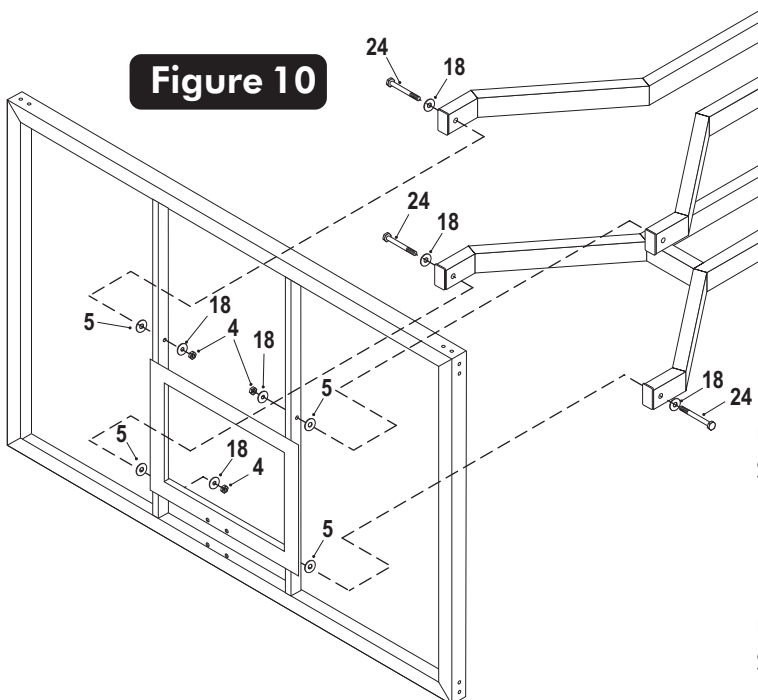

Figure 10
17. With at least three capable people, raise the backboard assembly up and have the fourth attach Lower Board Arms to lower mounting tubes on backboard using two bolts (#24), two plastic washers (#5), four washers (#18) and two lock nuts (#4). See Figure 10.
18. Attach Upper Board Arms to upper mounting tubes on backboard using two bolts (#24), two plastic washers (#5), four washers (#18) and two lock nuts (#4). See Figure 10.